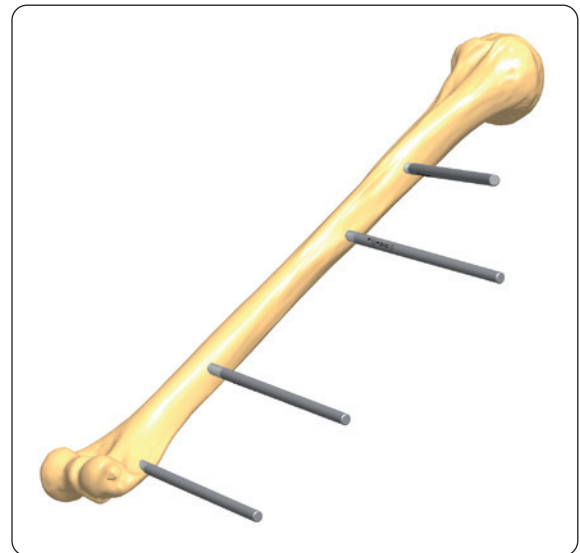

Fig. 7
7) Insert the remaining screws using the same technique (Fig. 7).